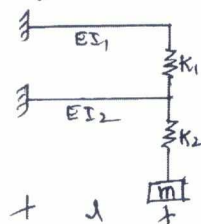

Fig. Q8 (b)
b. Determine the natural frequency of the systems shown in Fig. Q8 (b). (10 Marks)